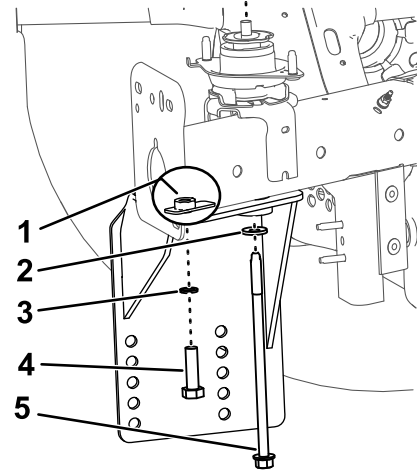

Figure 1
4. Loosely secure the left and right sideplates to the bottom of the frame using 2 bolts (M14), 2 split lock washers (M14), and existing hardware as shown in Figure 1.